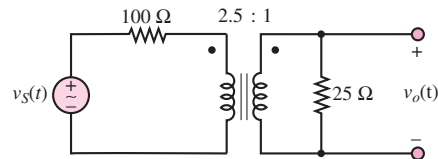

Figure P7.36
**7.36** For the ideal transformer shown in Figure P7.36, consider that  $v_s(t) = 294 \cos(377t)$  V. Find